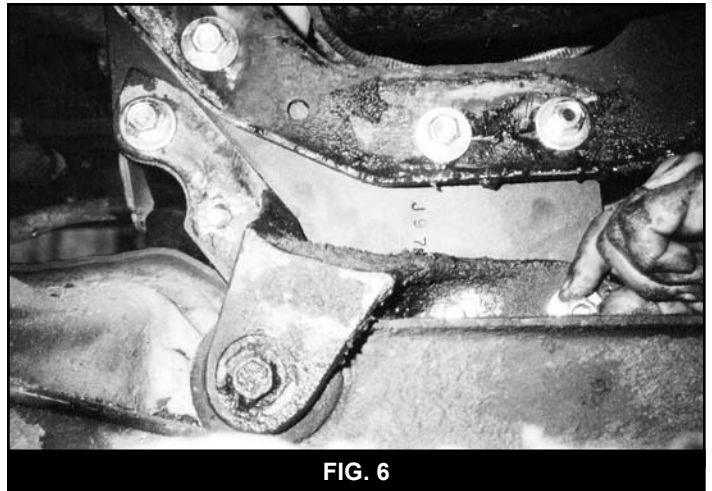

FIG. 6
11. Remove the existing passenger's side axle pivot bracket **Note: Located on the driver's side.** The stock axle pivot bracket is located in front of and beneath the oil pan. The bracket is held in place with four rivets that can be removed with an air chisel, drill or grinder. (Fig. 6)